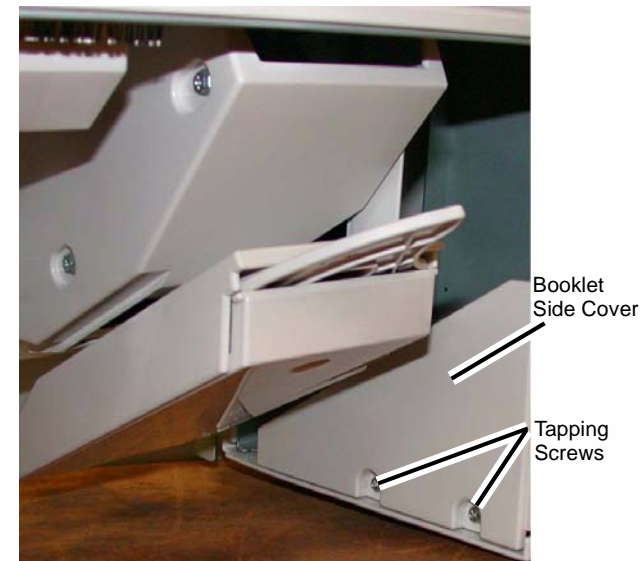

Figure 1 Removing the Booklet Side Cover
- a. Remove the Self-tapping Screws (2) (Figure 1).